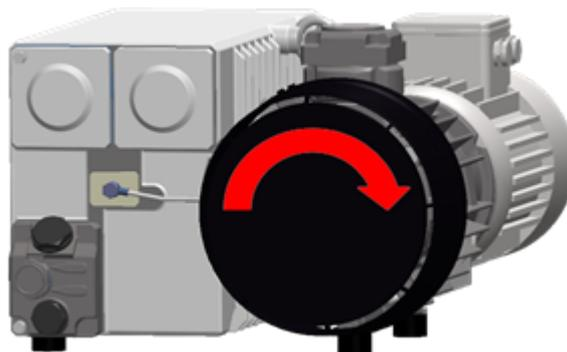

Figure 7: Direction of Rotation of the Vacuum Pump
3. Check the correct direction of rotation of the three-phase model pump. See *Figure 7: Direction of Rotation of the Vacuum Pump* on page 28.